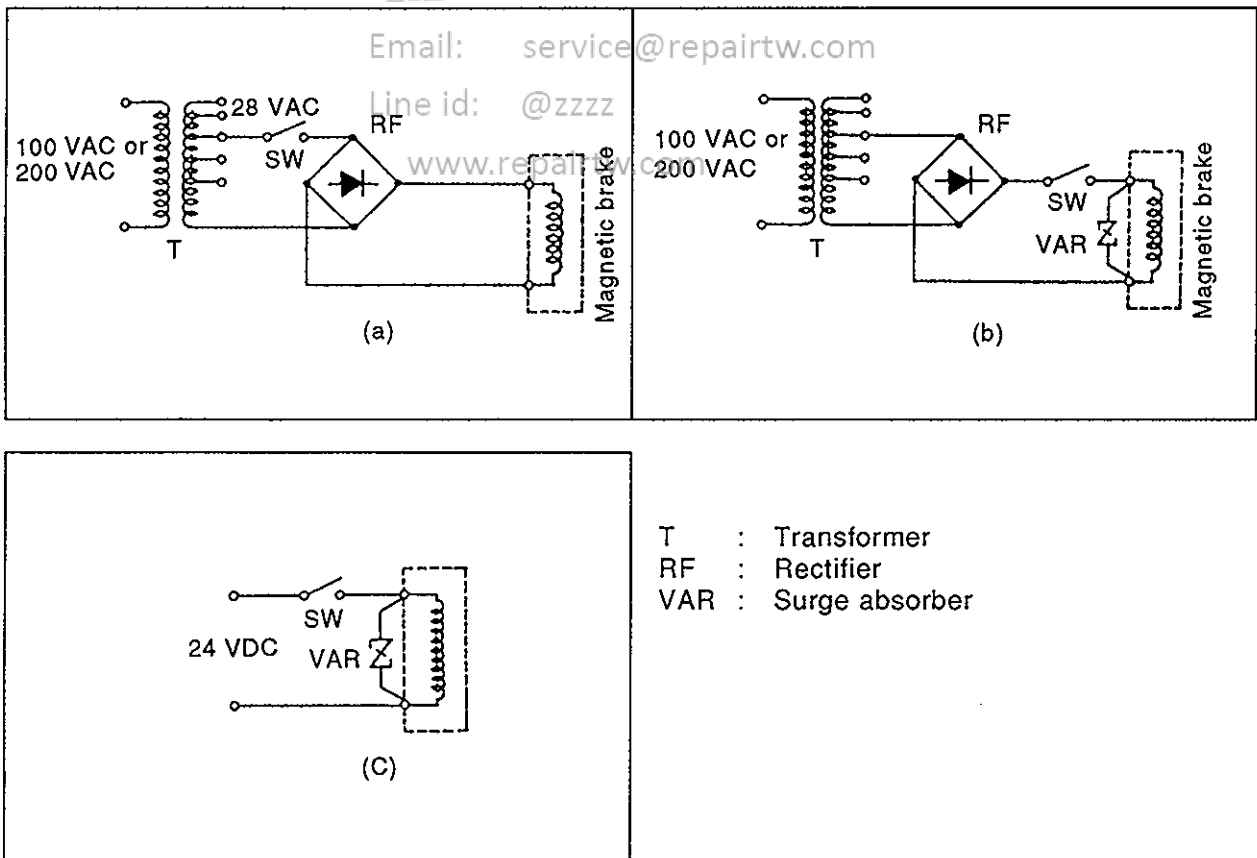

Fig. 7-3 Connection Examples
- 1) Examples of connection of the brake power supply are shown in Fig. 7-3(a) to (c). (a) is for AC off, and (b) and (c) for DC off.